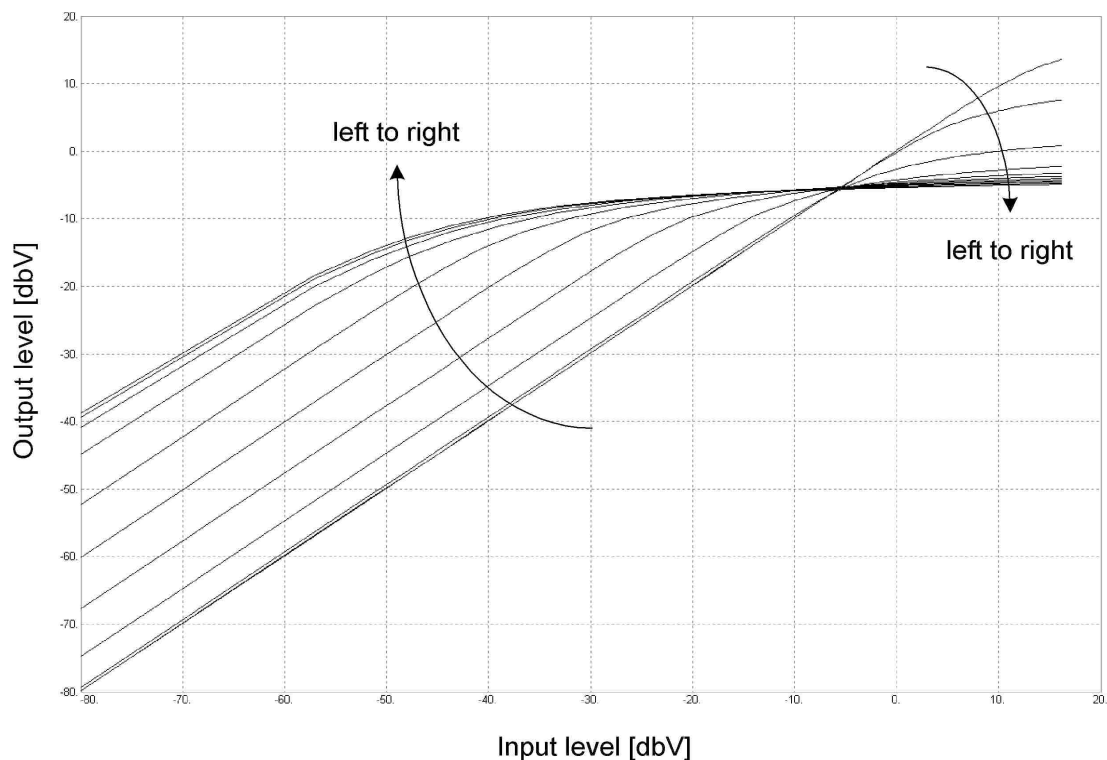

Fig. 8.2.1 [compression]-knob
Fig. 8.2.1 shows what happens when the [**compression**]-knob (3) is turned clockwise.